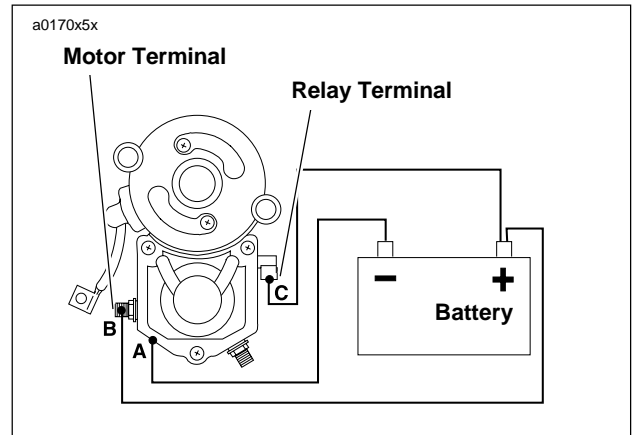

Figure 5-14. Hold-In Test
1. See Figure 5-14. With test leads still connected in the manner specified in the previous **SOLENOID PULL-IN TEST**, **disconnect solenoid motor terminal/battery negative test lead (B) at negative battery post only; reconnect loose end of this test lead to positive battery post instead.**